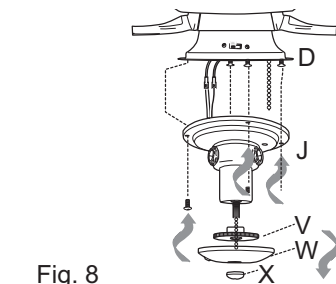

Fig. 8
8. Loosen three screws on switch housing (D) and remove the other screw. Align red dot on light kit fitter (J) with red dot on switch housing (D). Guide pull chain from switch housing (D) through pull chain hole on light kit fitter (J), and then twist light kit fitter (J) to lock it in place. Re-insert screw that was just removed and tighten all four screws to secure light kit fitter (J). [Fig. 8]
Remove finial (X), shade plate (W) and shade screw (V) from light kit fitter (J). [Fig. 8]